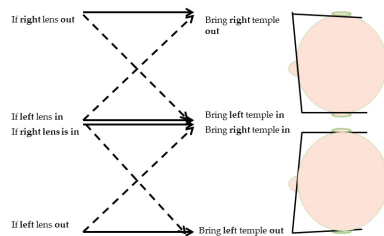

FIG. 4
**Both lenses should have equal vertex distance:** The vertex distance must be the same in each eye for proper fit (Fig. 4). If a frame sits closer to the eye on one side, an adjustment must be